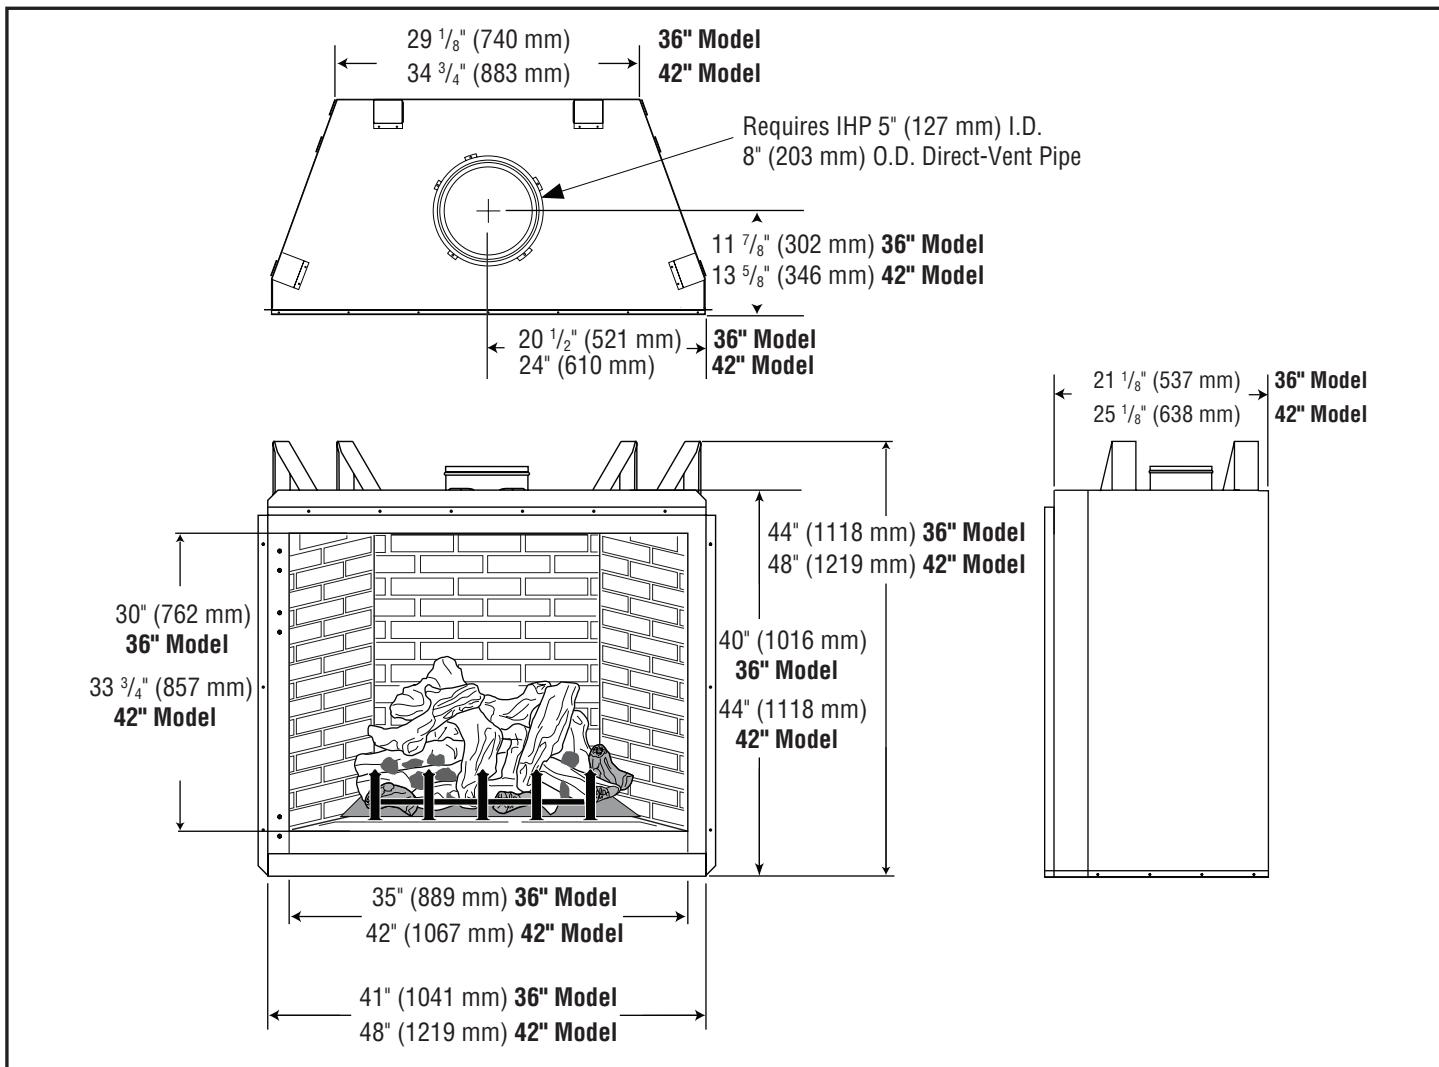

Figure 3 - Fireplace Dimensions
- If your fireplace is to be installed directly on carpeting, vinyl tile or any combustible material other than wood, it must be installed on a metal or wood panel extending the full width and depth of the fireplace (see **Figure 3, Page 9**).